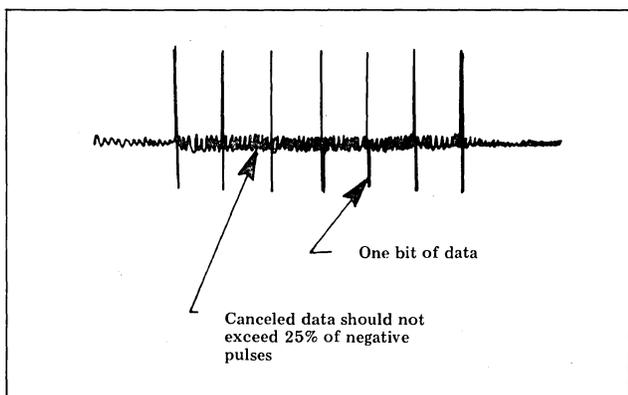

Figure 5-6. Azimuth Alignment
10. For azimuth alignment, set the display mode to A-B and adjust both oscilloscope channel voltages to obtain maximum cancellation of data. The cancelled data should be 25% (or less) of the negative pulses (Figure 5-6.)